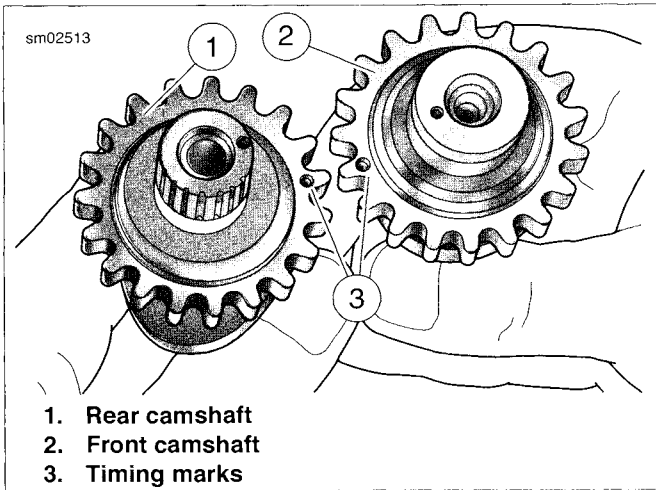

Figure 3-126. Camshaft Timing Marks
1. See Figure 3-126. Align timing marks on teeth of secondary cam sprockets (outboard faces).